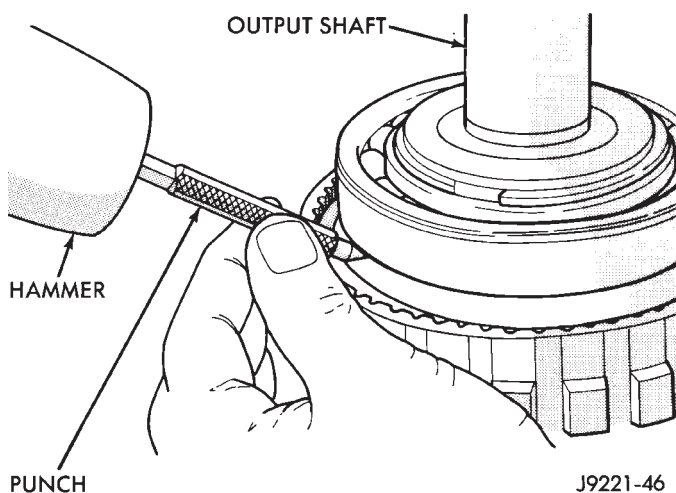

Fig. 30 Marking Annulus Gear And Output Shaft For Assembly Alignment
(9) Mark annulus gear and output shaft for assembly alignment reference (Fig. 30). Use punch or scriber to mark gear and shaft.